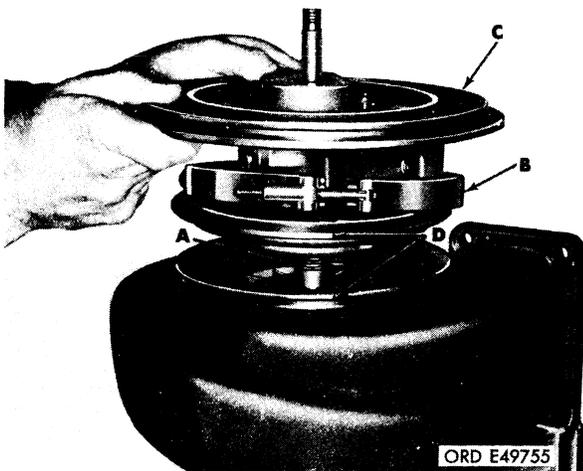

FIGURE 46. POSITIONING BEARING HOUSING ON TURBINE HOUSING - TURBOCHARGERS 10912638 AND 53591-C-139552.
- (1) Refer to figure 46.
- (a) Apply a light coat of engine oil (OE) to shaft and piston rings (A). Make certain the piston ring gaps are 180 degrees apart and centered on shaft and turbine wheel.
- (b) Position clamp (B) at the center of bearing housing (C).
- (c) Place bearing housing (C) over shaft and position on turbine housing making certain alignment marks (D) are aligned.